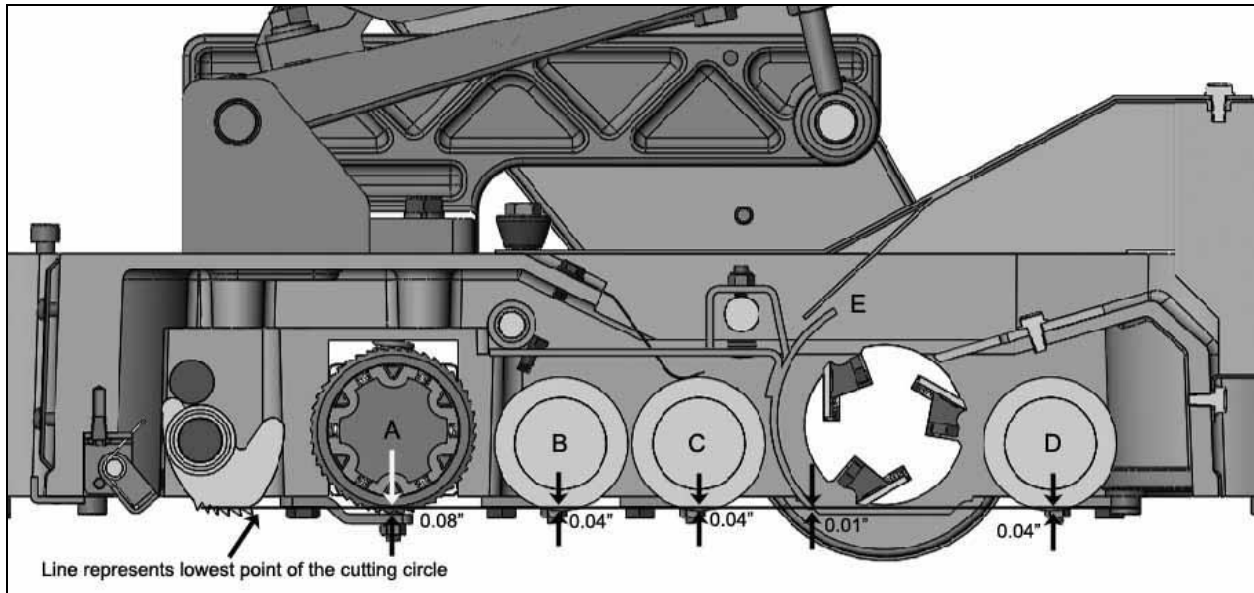
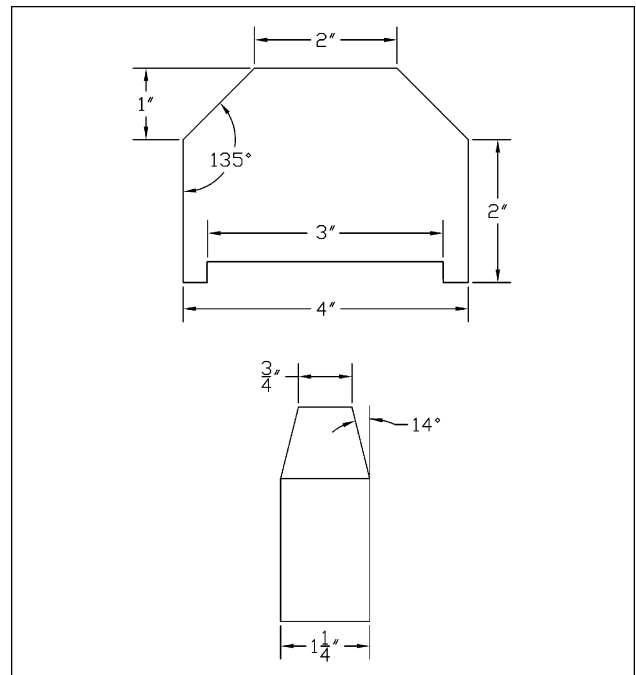
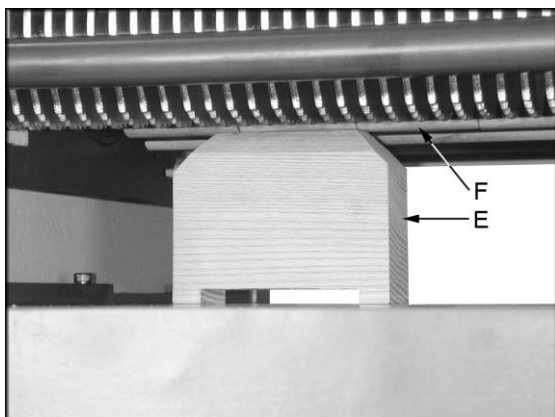

Figure 13
Figure 14
Figure 16
Figure 13 shows setup for general planing applications. The measurements shown are the relation between the lowest point of the cutting circle and the desired distance of the feed rollers and chip breaker below the cutting circle. Depending on the stock and cutterhead you may find that a different setup may work better for your particular planing operation.
Make a hardwood block to the approximate specifications in drawing Figure 14. You can use this wood gauge along with the appropriate feeler gauge (see measurements of Figure 13) to set the planer up.
1. Place the hard wood gauge (E, Figure 16) you constructed under a knife in the cutterhead (F, Figure 16). Depending on which roller you are adjusting, place the appropriate feeler gauge (according to the dimension on Figure 13) on top of the wood block and raise the table until the gauge contacts the knife in its lowest position.